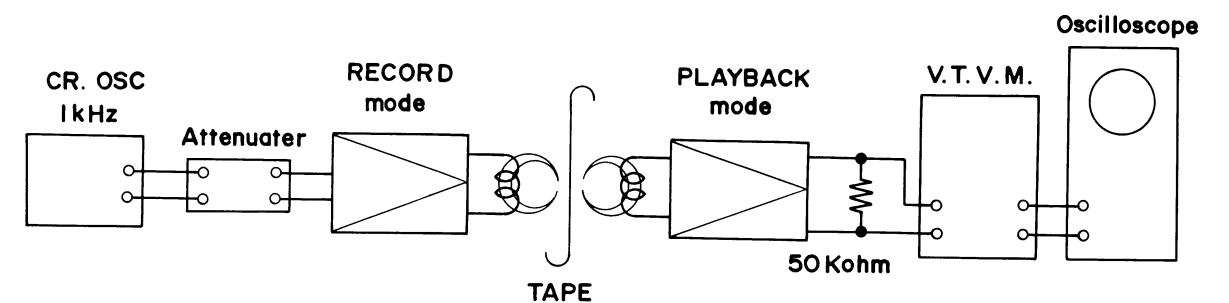

Fig. 27
- (1) Set the tape speed at 19cm/sec and the tape selector switch at NORMAL.
- (2) Apply $-60dB$ ($0dB = 1V$) signal to MIC terminal and adjust the volume control so that the level meter indicates 0VU, and then record.
- (3) Connect the 50K ohm, 5% dummy load resistor across the OUTPUT terminal.
- (4) Playback the above recorded part and confirm that the OUTPUT terminal voltage is within $0.775V \pm 2_{-3} dB$ ($0.550 - 0.975V$).
- (5) Difference between channels must be within 3dB in the above range.
9. MEASUREMENT OF TOTAL FREQUENCY CHARACTERISTIC (STANDARD TAPE) (Refer to Fig. 27)